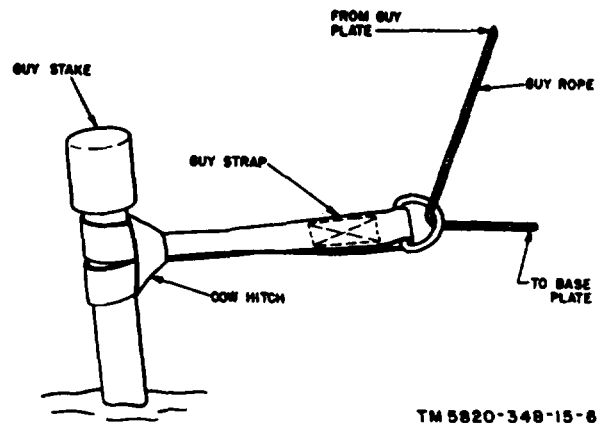

Figure 2-3. Attaching guy strap to guy stake.
b. Attach two guy ropes securely to the side holes of the lower guy plate (fig. 1-1). Pass these guy ropes through their respective side guy stake strap rings (fig. 2-3), and then through the holes in the appropriate baseplate cleats. Form a slip knot in each guy rope and pull the free ends through the loops of the slip
e. Run the guy ropes through the third guy stake strap ring (fig. 2-3) and secure them to the baseplate.